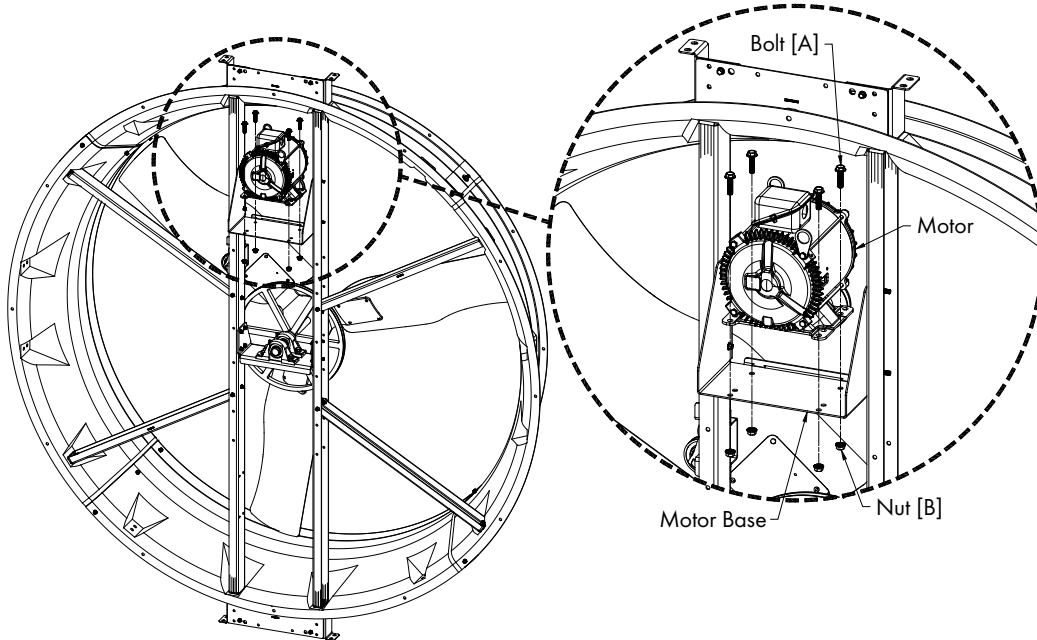

Figure 3
Place the Motor on the Motor Bracket and line up the rear holes on the Motor Base with the rear holes on the Motor Bracket. This should line up the 3rd pair of hole in the Motor Base with the front holes in the Motor Bracket. Secure Motor to Motor Bracket using (4) Bolts [A] and Nuts [B] and tighten to 37 ft.-lbs [50 N-m]. See Figure 3.